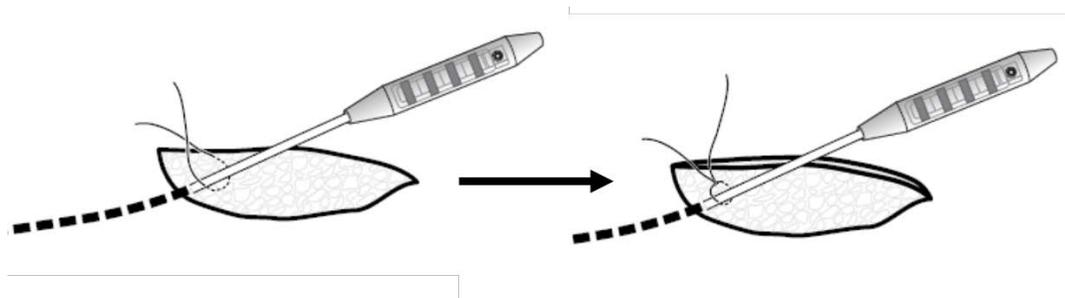

Figure 2. Securing the suture around the perc extension
- Secure the preplaced suture in the tissue around the percutaneous extension closing the tunneling path (Figure 2).